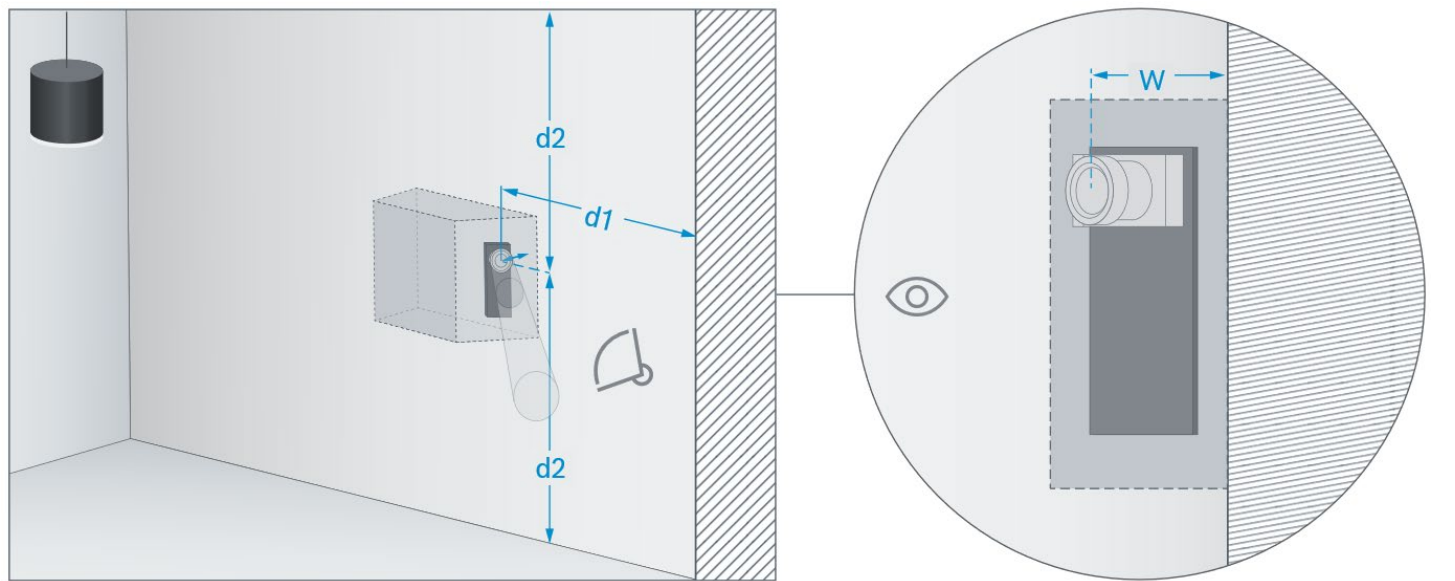
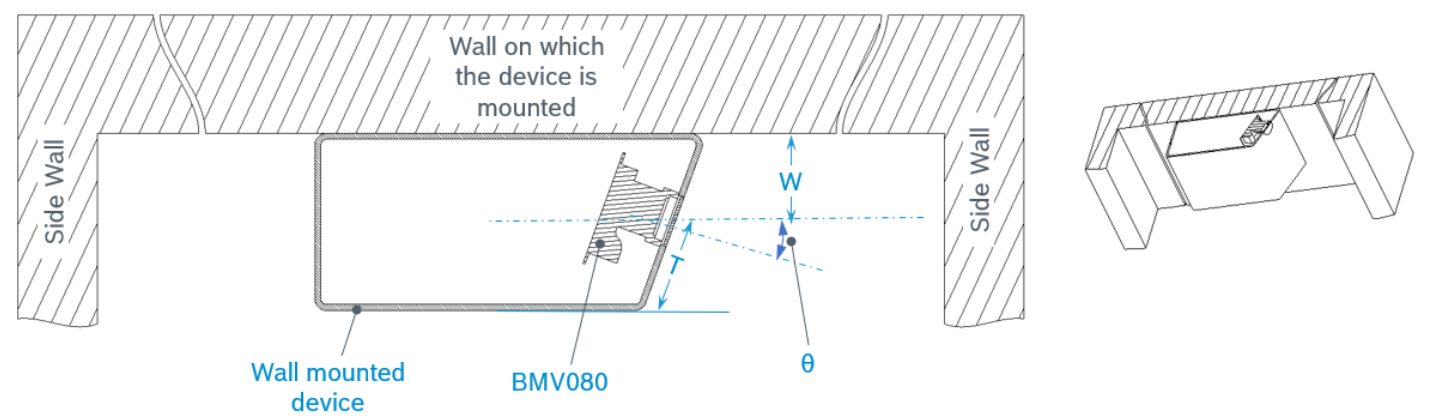

Figure 9: BMV080 (facing left or right) when mounted closer to the wall on host device
Figure 10: Schematic of BMV080 (facing left or right) when mounted closer to the wall on host device
- If BMV080 needs to be mounted closer to the mounting surface (e.g., wall), BMV080 must be tilted away from the surface as depicted in Figure 9 and Figure 10